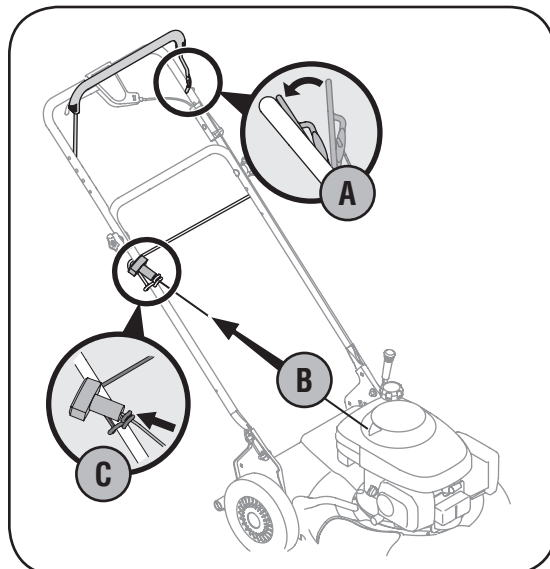

Figure 3-3: Pull recoil starter through rope guide.
3. The rope guide, which is connected to the support rod, is located on the right side of the lower handle. See Figure 3-3.